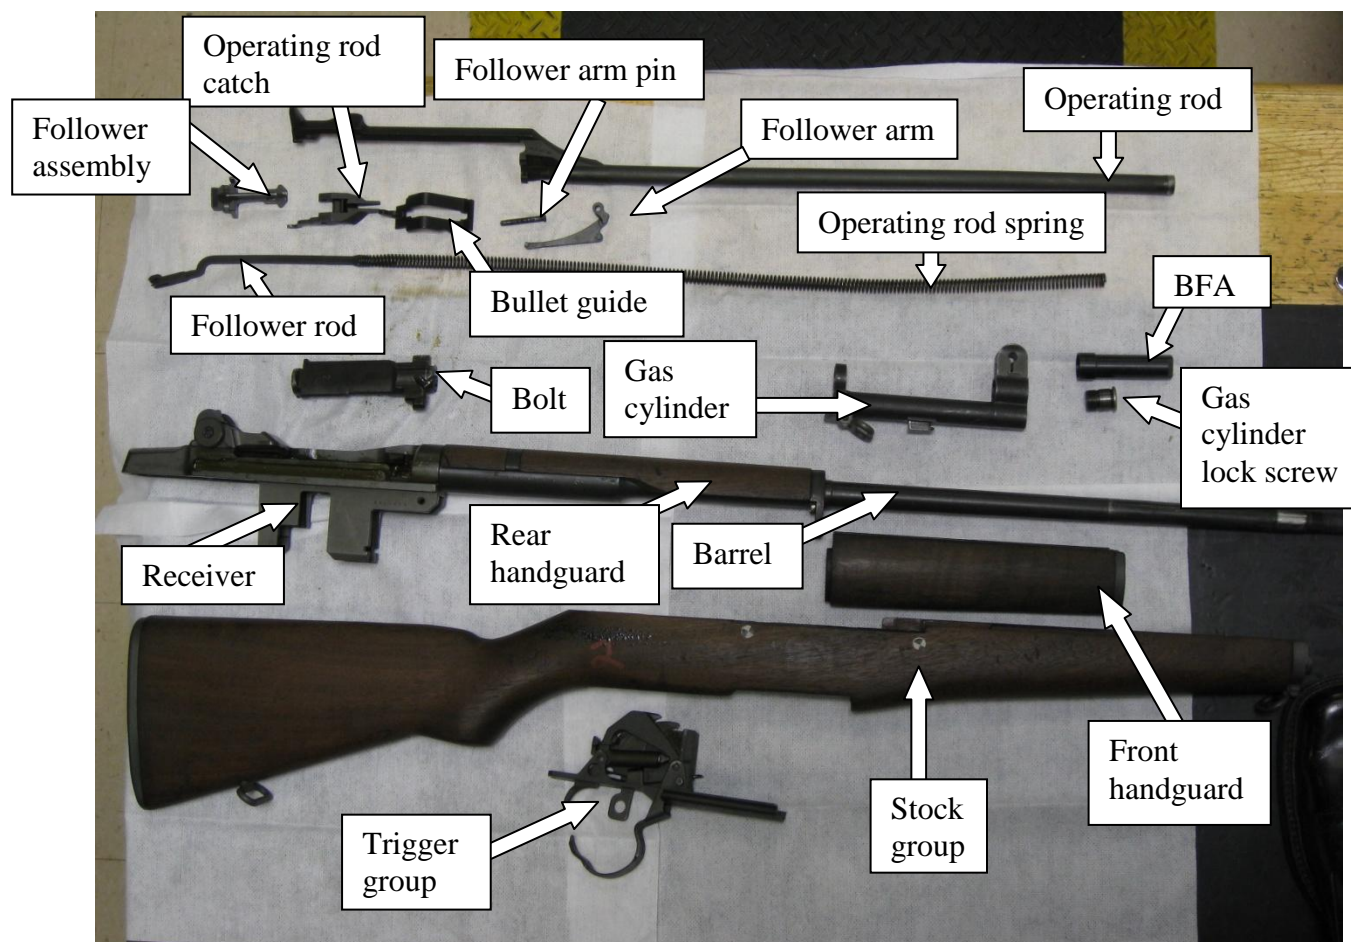

Figure 28. Disassembled parts of M1 Garand rifle
9) The parts of the barrel and receiver group are shown below along with the stock group and trigger group (fig 28).